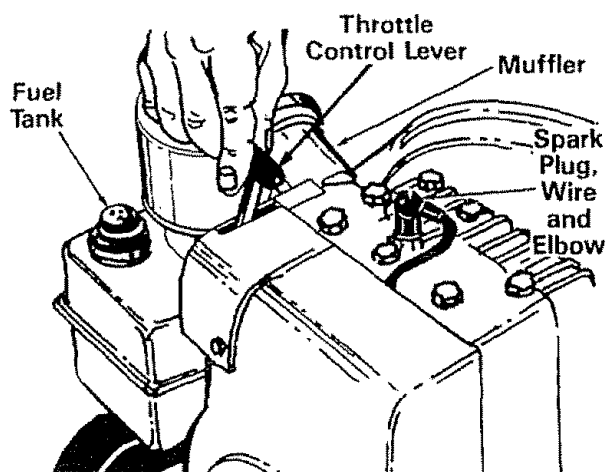

FIGURE 8.
2. Fill fuel tank. See figure 8. Use fresh, clean, unleaded automotive gasoline. Capacity is 3 quarts.
2. Place the throttle control lever in START position. See figure 8
1. Move throttle control lever to STOP position. See figure 8.